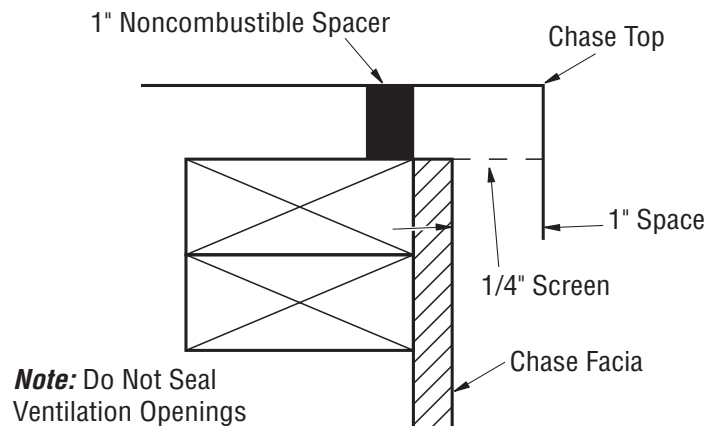

Figure 29 - Chase Top Flashing
- Attach noncombustible spacers at each corner and place flashing over chase (see Figure 29). Secure flashing through sides with 8-penny nails or sheet rock screws.